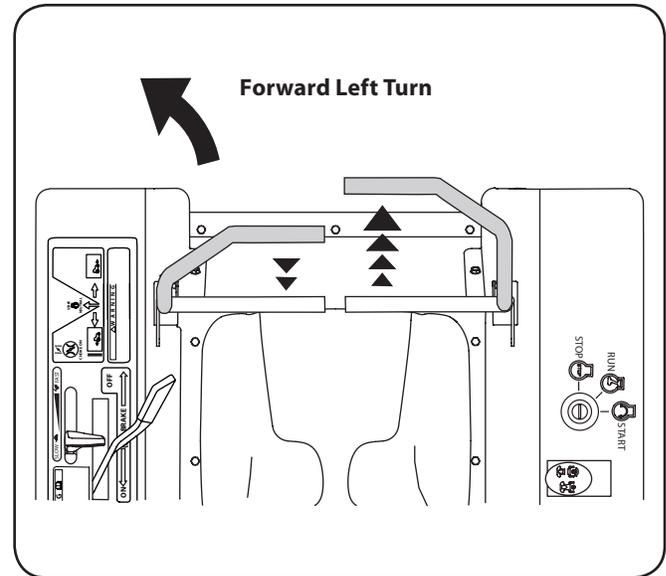

Figure 5-3
1. To turn to the left, move the left drive control lever rearward of the right lever. See Fig. 5-3.